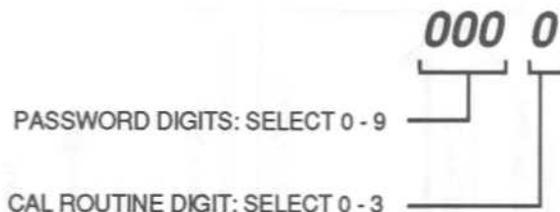

Figure 6-7. CAL Password and Routine Digits
- Press the FUNCTION ▼ pushbutton. The display shows the password and function digits (see Figure 6-7). Note that the left-most digit is flashing.